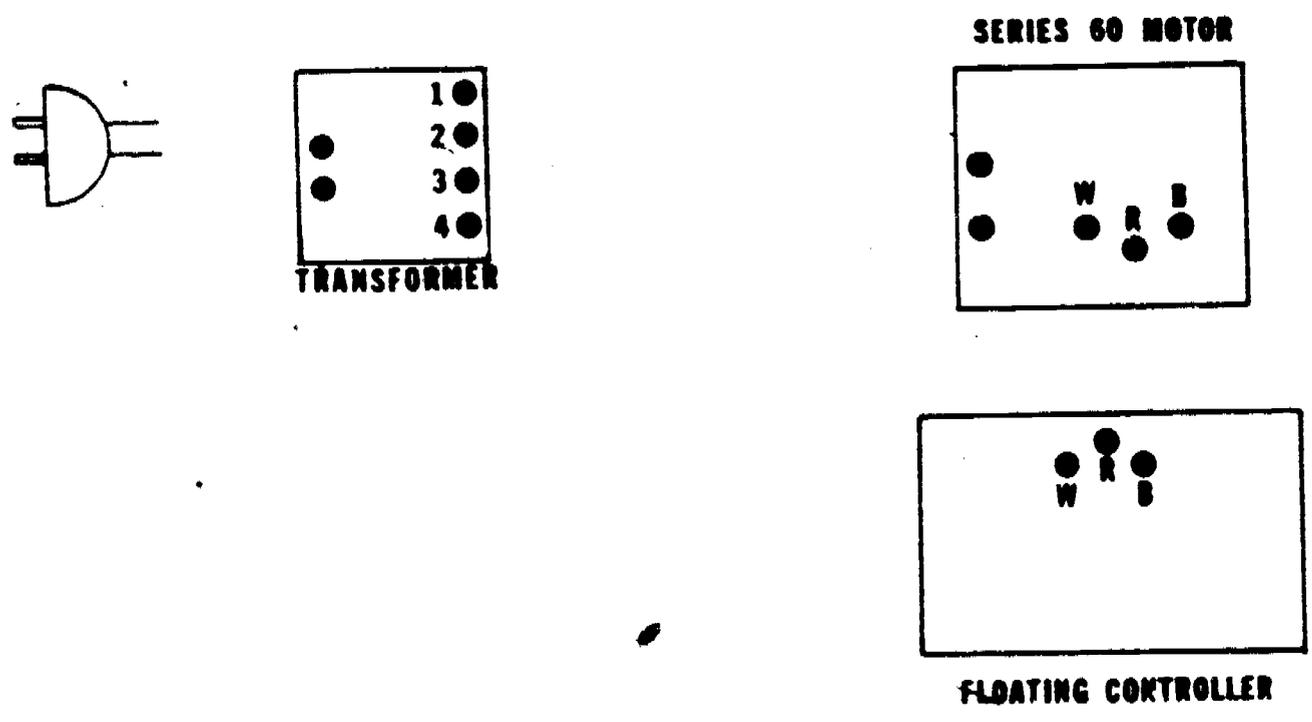

Figure 3. Control Circuit
1. Draw lines to indicate proper wiring, figure 3.
3. Connect the wires as indicated in your drawing, figure 3.